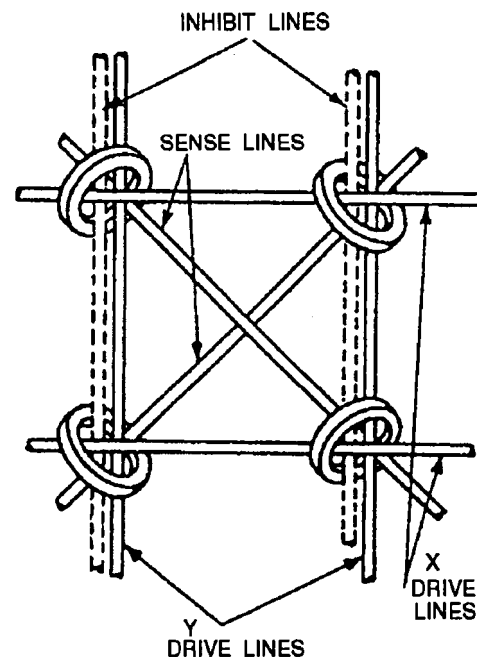

Figure 6-10.—Four-wire magnetic core matrix.
**Matrices.**— Magnetic cores are arranged into matrices to simplify addressing, reading, and writing operations. An example of a basic four-wire magnetic core matrix is shown in figure 6-10. Each core in the matrix must have 2 drive lines (X and Y), an inhibit line, and a sense line intersecting through the center of the core. The most common four-wire core matrix is the 64 by 64 **array**. We base our discussion of matrices on this size.